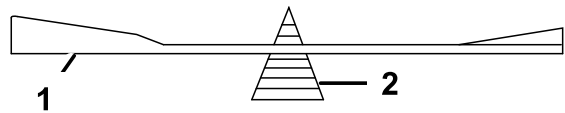

Figure 109
2. Check the balance of the blade by putting it on a blade balancer (Figure 109).